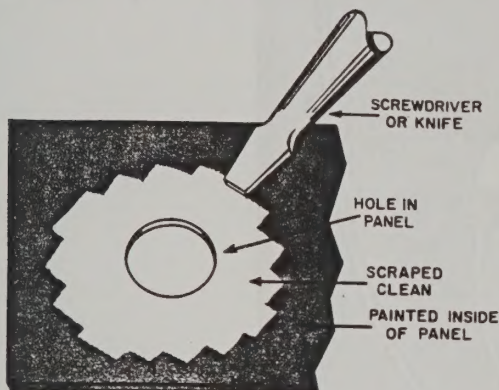

FIGURE 3. HOW TO SCRAPE PAINT
- ☒ On the inside of the chassis, scrape the paint from around the holes used to mount the INPUT and LOAD (J-1 & J-2) coaxial connectors, as shown in Figure 3.
- ☐ On the inside of the chassis, scrape the paint from around the hole marked GND. See Figure 3.